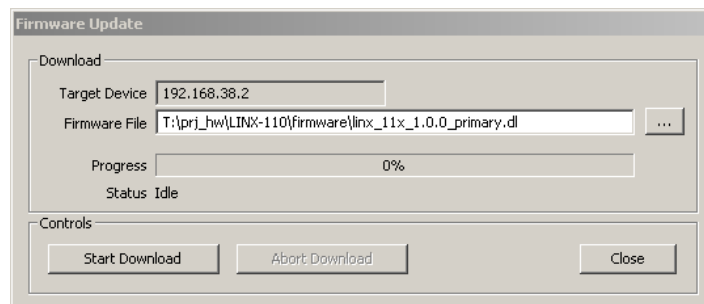

Figure 163: Firmware Update dialog of the LINX-100/200 Configurator.
6. This opens the Firmware Update dialog as shown in Figure 163. Click on the button "..."